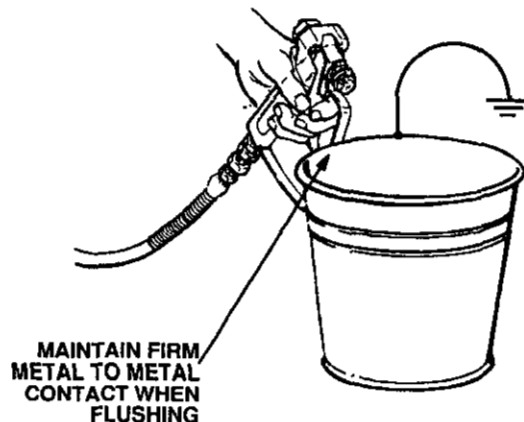

Fig 16-2
6. Disengage the gun safety latch. Point the spray gun into a metal waste container and with a metal part of the gun firmly touching the metal container, squeeze the gun trigger. See Fig 16-2. This procedure helps reduce the risk of static sparking and splashing. Start the sprayer, trigger the gun and slowly turn the pressure adjusting knob clockwise just until the pump starts. Keep the gun triggered until clean solvent comes from the nozzle. Release the trigger and engage the gun safety latch.